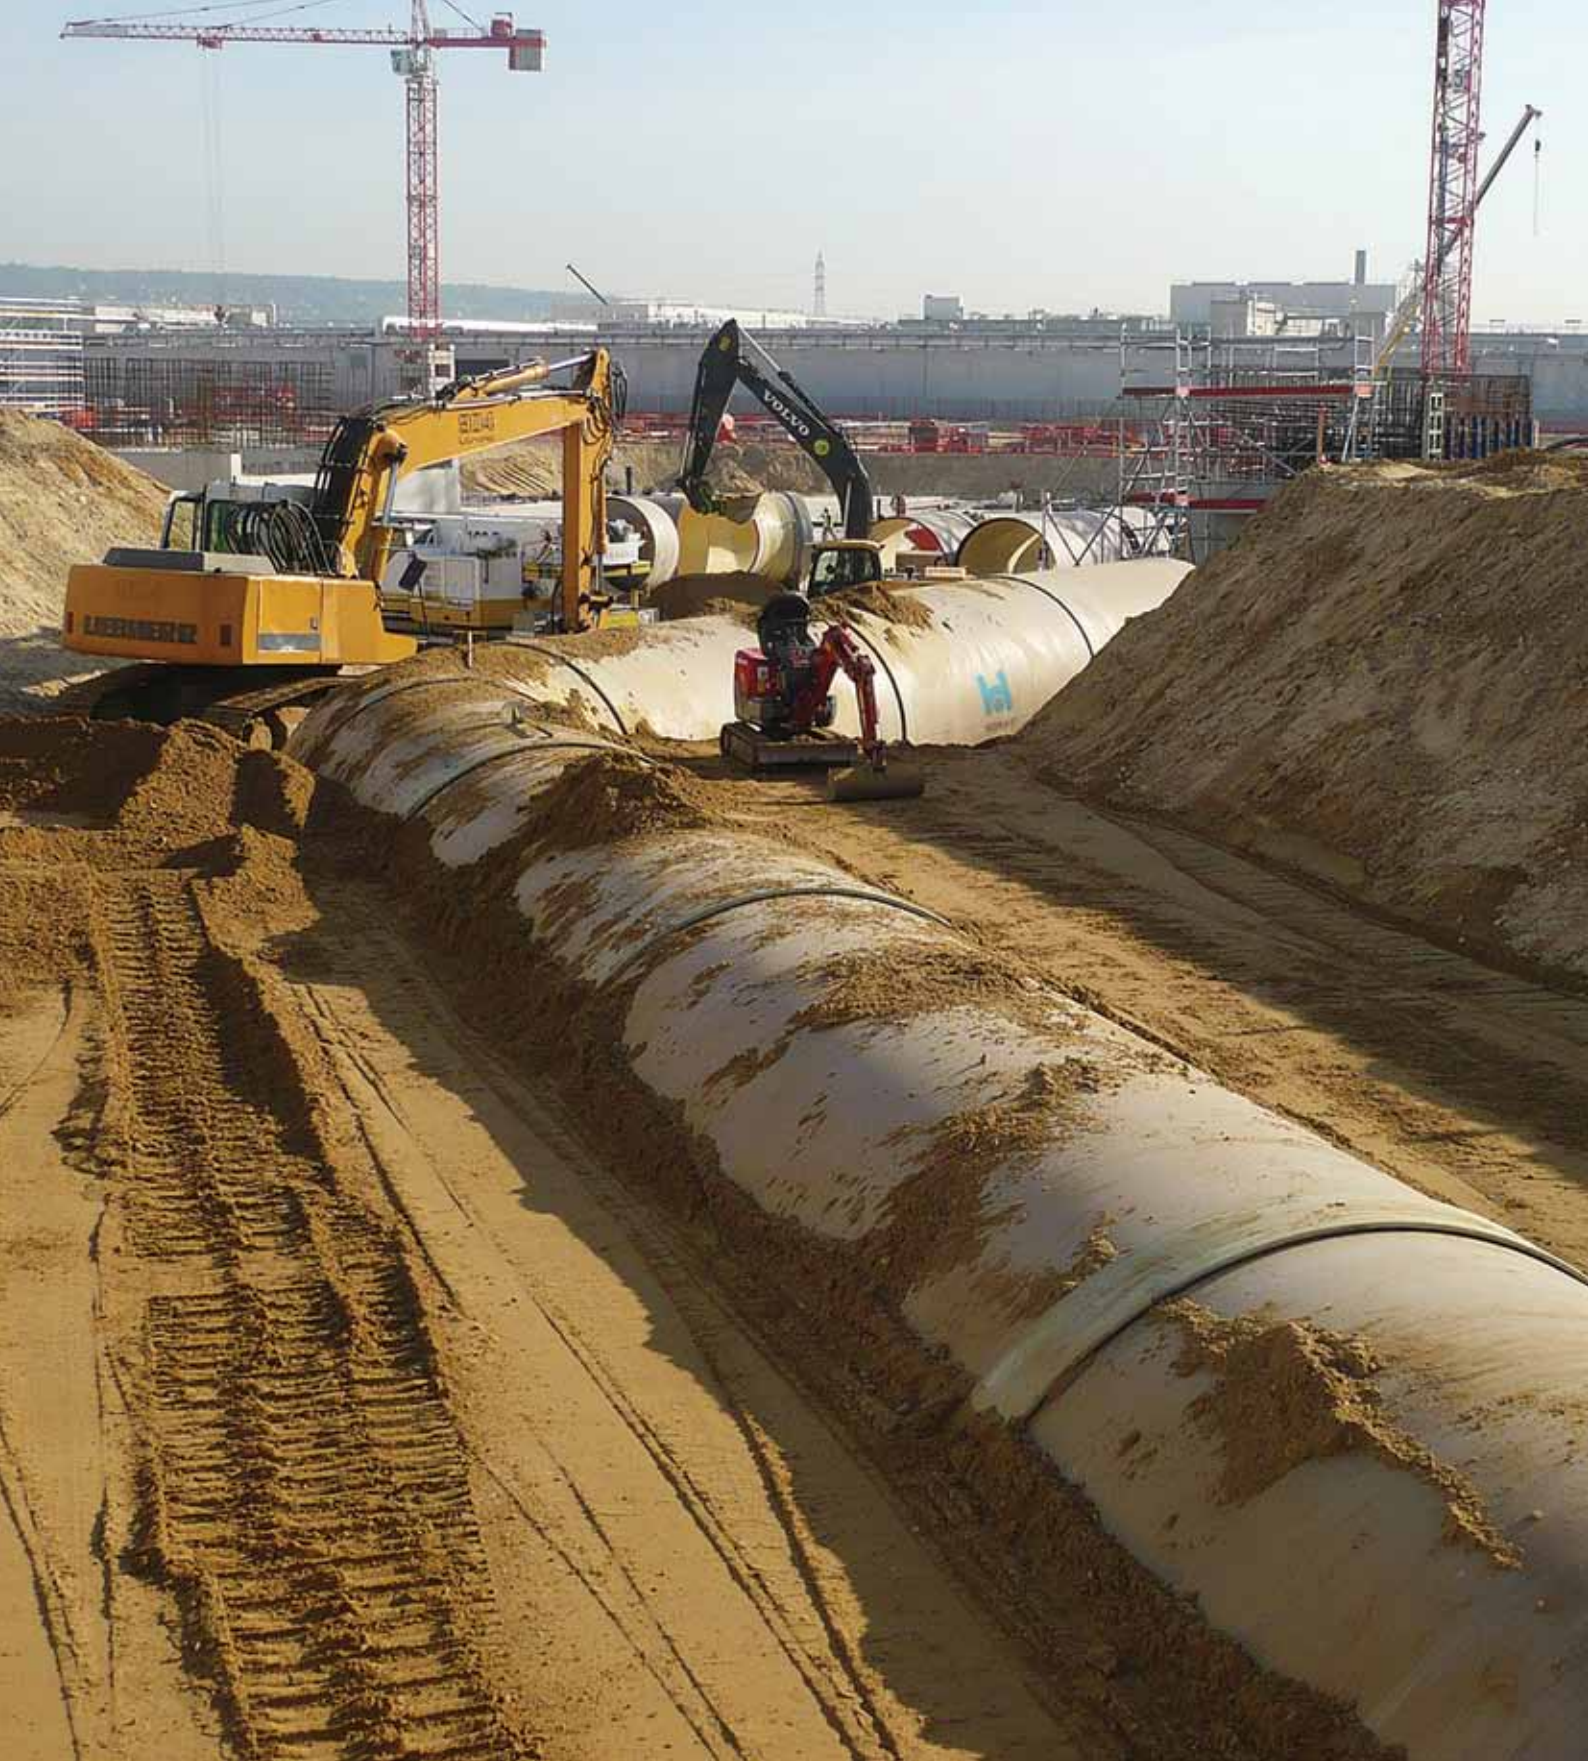

Fig. 66: Placing the saddle
- 5 Place and secure the saddle in position (e.g. with a strap) until the glue has completely cured (Figure 66).